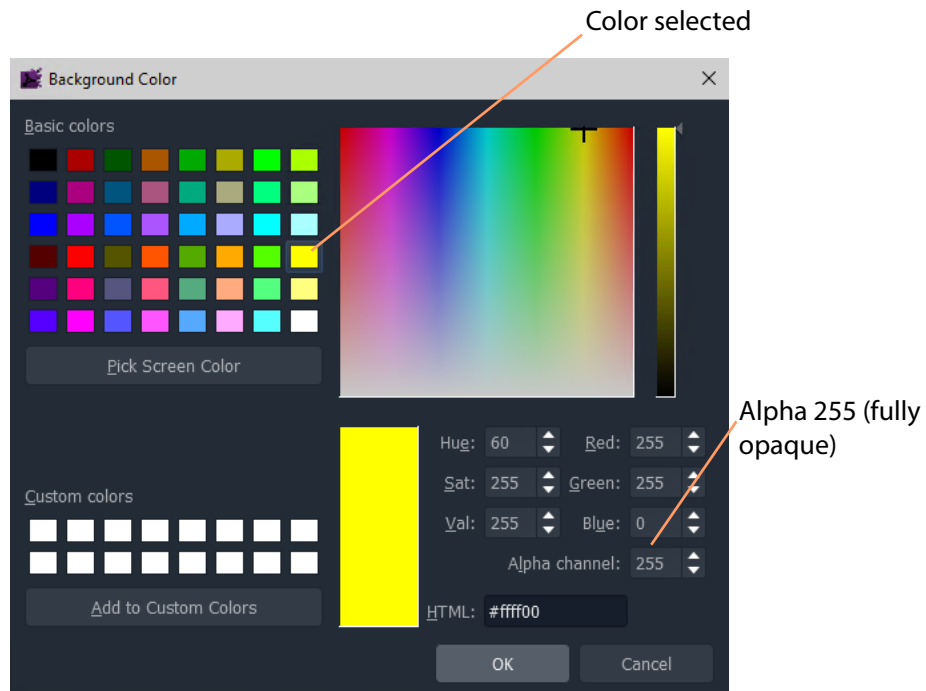

Fig. 7-23: Color Picked
- 6 Click on the **...** icon to show the **Background Color** color select dialog. See Figure 7-23.